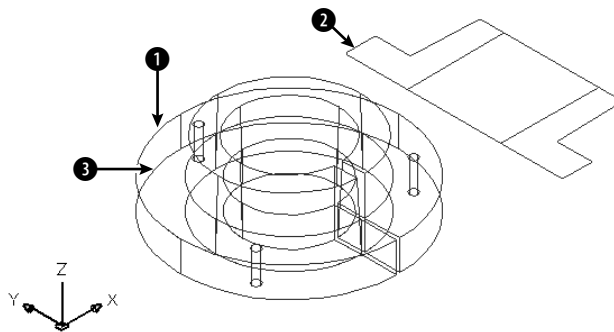

Figure 24-32: A bushing in 2D and 3D. The 3D bushing has been exploded but still looks the same. It can now be used to extend lines.
2. Save the file as `ab24-10.dwg` in your AutoCAD Bible folder. You see a bushing, in 2D and 3D, as shown in Figure 24-32. The 3D bushing has been exploded into simple geometry—otherwise, you wouldn't be able to use it to extend the 2D lines.
Select objects: *Pick the 3D bushing at ① in Figure 24-32.*